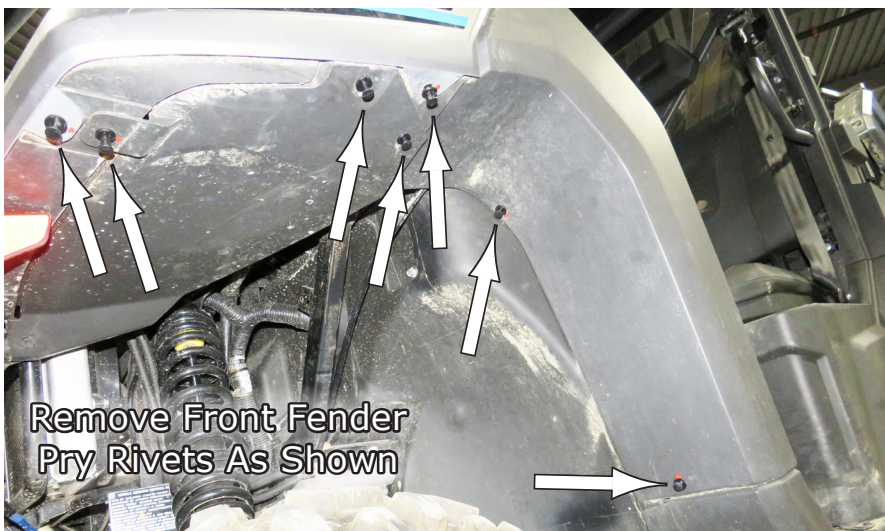

Fig.1
1. To install the front flares, you will need to drill a few holes that you will use to attach them with. To do this, you first remove the factory Pry Rivets from underneath the wheel well as shown in **Fig.1**. Keep these as you will need them to re-install. Remove the Rivets shown in **Fig.1**.